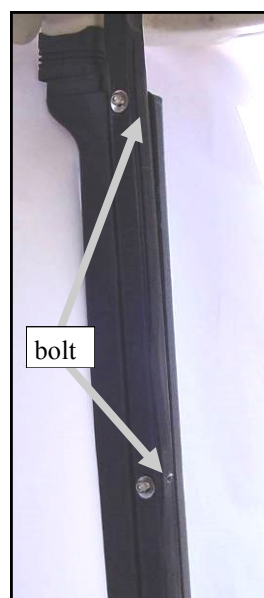

Fig. 4.1 (view from right side)
4.1 Per fig. 4.1, re-install the down spouts and flexible rubber boots using the original equipment hardware (ref.: 2 bolts and 2 washers per side).